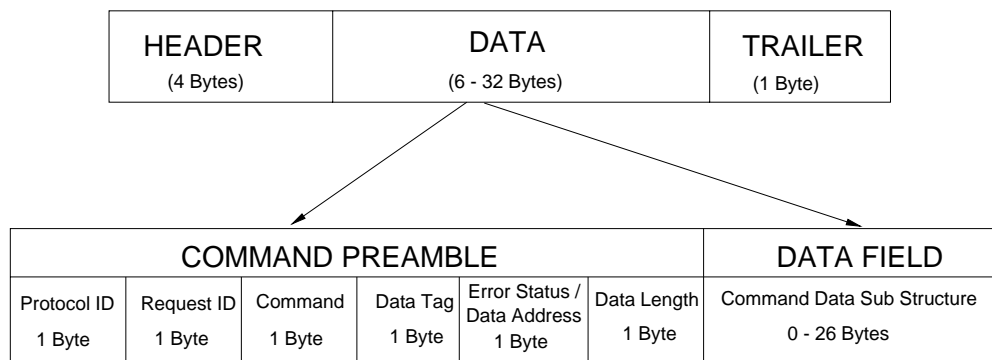

Figure 5-3: Data Packet
The data sub-packet is comprised of 6 to 32 bytes of information. It is further divided into seven (7) fields as shown in Figure 5-3. The first six (6) fields comprise the command preamble while the last field is the actual data.